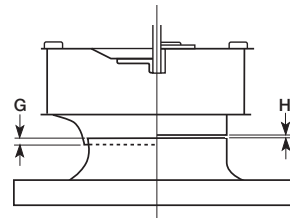

Figure 13 - Wheel Overlap and Gap Dimension
1. Check all fasteners and set screws for tightness. The wheel should rotate freely and be aligned as shown in Figure 13.